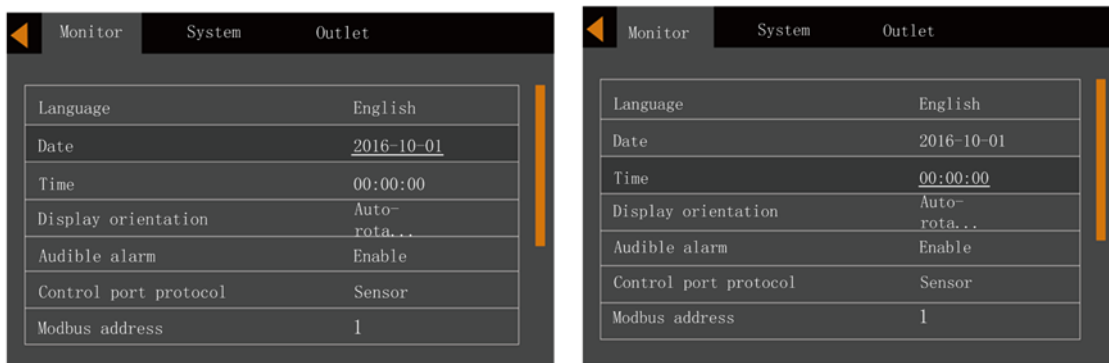

Figure 5-21 Changing date and time
4. Press the **Enter** key, move the cursor and press the **▲** or **▼** key to change the date and time as required. See Figure 5-21.